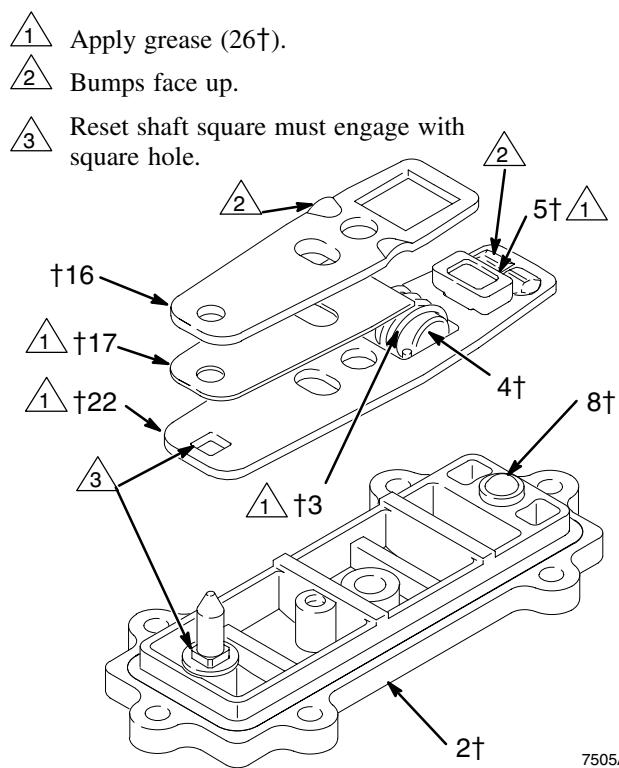

Fig. 13
5. Grease the detent link (22) and link spacer (17). Assemble the detent link, link spacer, and actuator link (16) as shown in Fig. 13. The raised bumps on the links (22 and 16) must face up.
6. Squeeze the spring (3) and install it and the stop (4) in the link assembly. The spring tension will hold all these parts together. Grease the valve cup (5) and install it in the link assembly as shown.
7. Install the link assembly on the cover (2) so the pointed end of the reset shaft (21) fits through the holes in the links and the square part of the shaft engages the square hole. Make certain the bumps on the detent link (22) engage the ball (8).